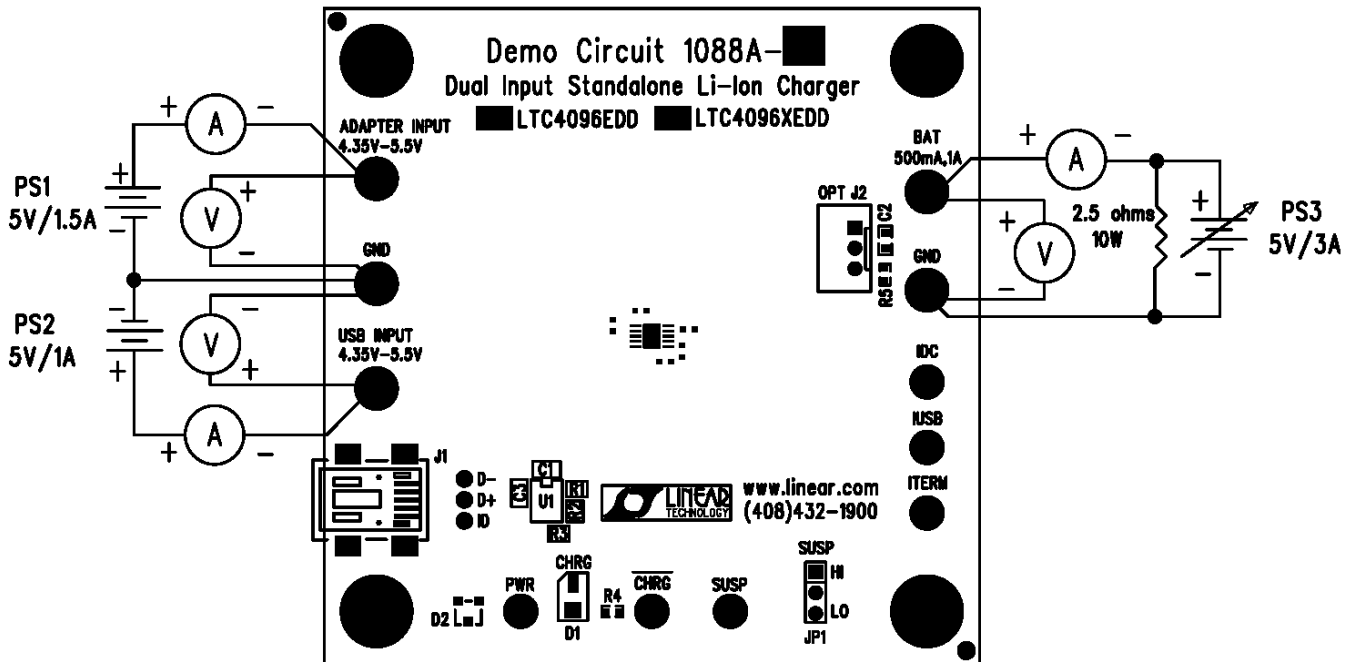

Figure 1. Proper Measurement Equipment Setup
Refer to Figure 1 for proper measurement equipment setup and follow the procedure below.
2. With the power supplies adjusted to 0V, connect the USB Input, Adapter Input, and Battery Simulator with series ammeters as illustrated in Figure 1. An ammeter or a 100mΩ current sense resistor may be used to measure the battery charge current.
3. Connect voltmeters as shown in Figure 1 across USB Input and Ground, across the Adapter Input, and Ground, and across the Battery Output and Ground. These voltmeters may also be used to measure the voltage on the IDC, IUSB, ITERM, and PWR terminals.